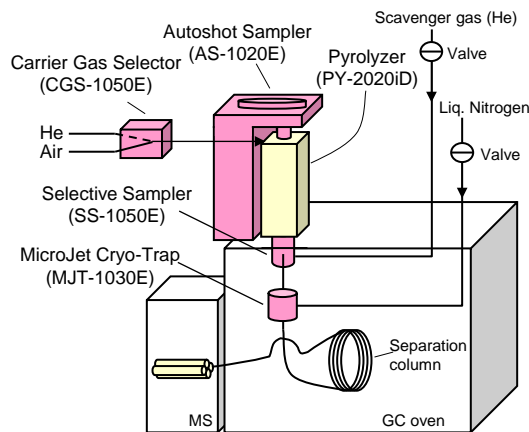

Figure 1. Automated oxidative pyrolysis and program acquisition system
**[Experimental]** Fig. 1 shows the construction of a Py-GC/MS system used. A Double-Shot® Pyrolyzer directly coupled with a split/splitless injection port was further connected to an MS through a separation column. A carrier gas fed to the pyrolyzer was provided through a carrier gas selector, permitting air or helium to be selected. Underneath the injection port, a selective sampler was installed, allowing the sample gases from the injection port to flow into the separation column or to be exhausted. Also, at the front of the separation column, a MicroJet Cryo-Trap was installed in order to chill the portion of the column down to near -196°C so as to cold-trap volatile organics formed.